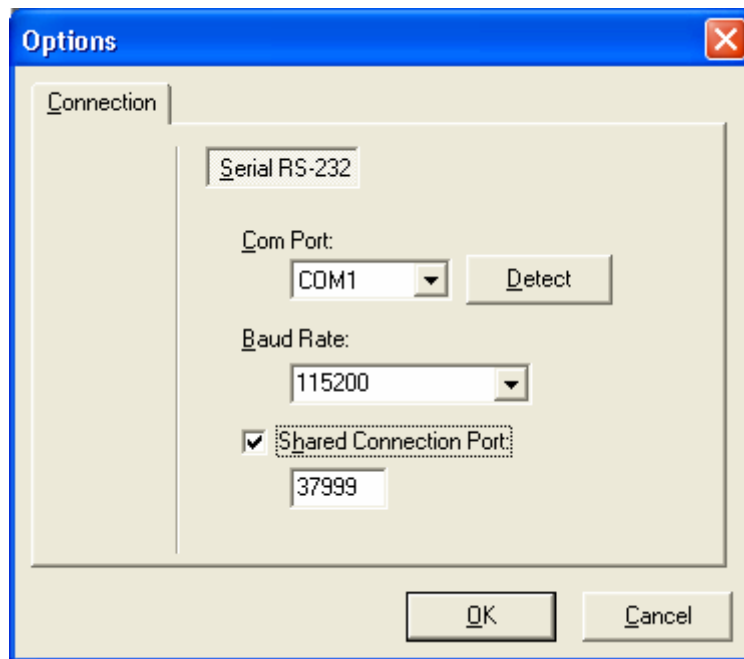

Figure 2-8: Sharing the Connection
- Check the checkbox for sharing the connection as depicted in Figure 2-8.